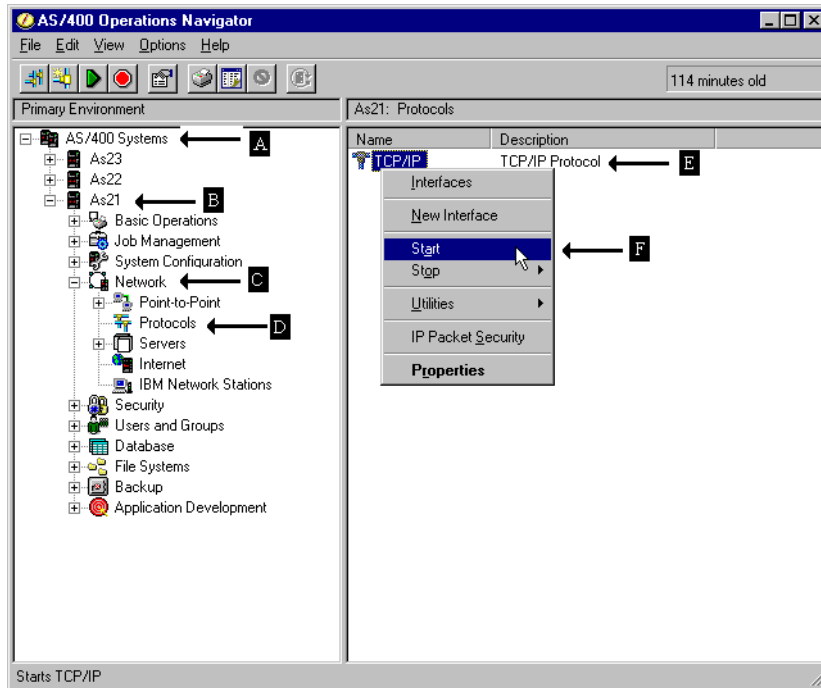

Figure 336. Start TCP/IP
- a. Double-click the **AS/400 Systems** icon (A) in the Operations Navigator tree to give you a list of the AS/400 systems that you are configuring.
- b. Double-click the AS/400 system that you want to start TCP/IP processing (B).
- c. Double-click **Network** (C).
- d. Double-click **Protocol** (D).
- e. Right-click **TCP/IP** to open the context menu (E).
2. Select **Start** (F) to initialize and activate TCP/IP processing, start TCP/IP interfaces, and start TCP/IP server jobs. Figure 336 on page 556 shows the context menu to start TCP/IP and the Start TCP/IP dialog.